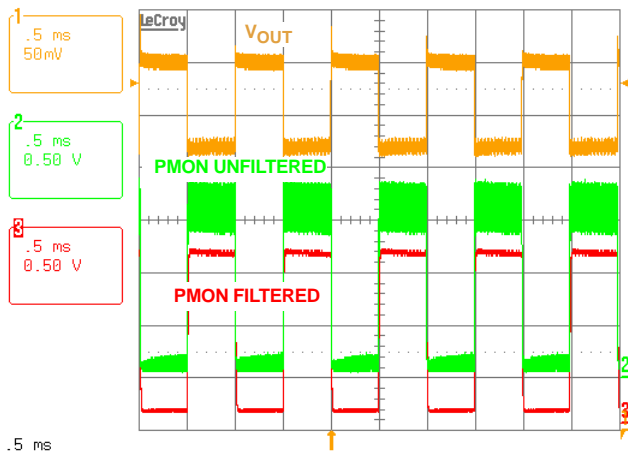

FIGURE 26. VID = 1.15V, LOAD TRANSIENT OF 0A TO 36A WITH INTEL VTT TOOL, 1kHz RATE, 50% DUTY CYCLE, TR = 35
2. The second level of overvoltage protection behaves differently (see Figure 26). If the output exceeds 1.7V, an OV fault is immediately declared, PGOOD is latched low and the low-side MOSFETs are turned on. The low-side MOSFETs will remain on until the output voltage is pulled down below about 0.85V, at which time all MOSFETs are turned off. If the output again rises above 1.7V, the protection process is repeated. This offers the maximum amount of protection against a shorted high-side MOSFET while preventing output ringing below ground. The 1.7V OV is not reset with VR\_ON, but requires that VDD be lowered to reset. The 1.7V OV detector is active at all times that the controller is enabled including after one of the other faults occurs so that the processor is protected against high-side MOSFET leakage while the MOSFETs are commanded off.